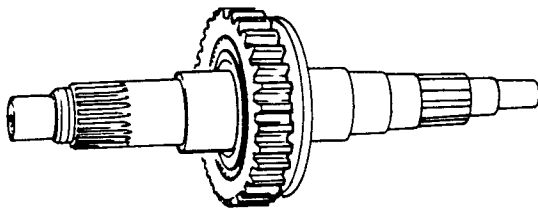

Fig H1.144
- (9) Refer to Fig H1.144. The mainshaft is an integral part of the 1st and 2nd speed synchro unit. Since the inner body of the unit and the shaft are machined as a single part, if the mainshaft, synchro unit inner body or outer body are worn, replace the 1st and 2nd synchro unit assembly. Due to the fact that the outer body of the synchro unit is matched with the inner body, these parts are supplied as a matched pair.